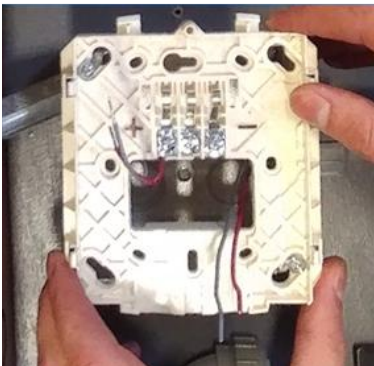

Figure 12.7
9. See **Figure 12.7** Re-install Signal Horn base plate to back box on **STANDPIPE-PAC™**.
10. See **Figures 12.7, 12.8** and **Figure 11 Wiring Diagram**. Strip ends of wire installed in Step 8. Attach wires removed in Step 5 and wires installed in Step 8 to Signal Horn base plate terminals.